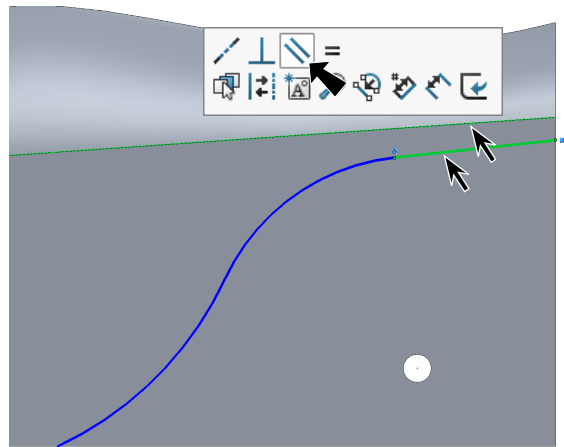

Fig. 84
Step 12. **Ctrl click line and top edge of body** to select both. Release Ctrl key and click **Make Parallel**  on the context toolbar, **Fig. 84**.